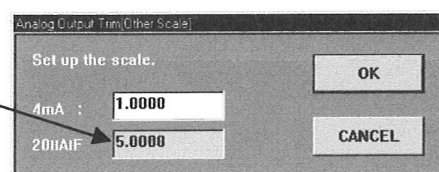

Fig.46
- ③ Clicking on "START" button brings up a message box as shown in Fig. 46. Entering an analog level (1V in this case) corresponding to the 4mA in the top row field allows a corresponding value to enter automatically in the second row field (20mA).